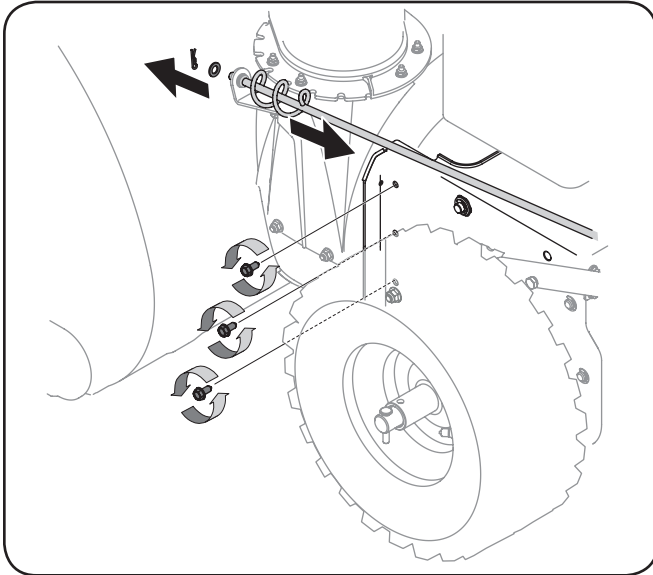

Figure 7-1
1. Disconnect the chute crank assembly at the discharge chute end by removing the hairpin clip and the flat washer. Refer to Figure 7-1.
- From both sides of the frame assembly, use a 1/2" wrench to remove the three hex tap screws securing the transmission frame to the auger housing assembly. Refer to Figure 7-1. **NOTE:** Do not remove the lower hex flange lock nut on each side.